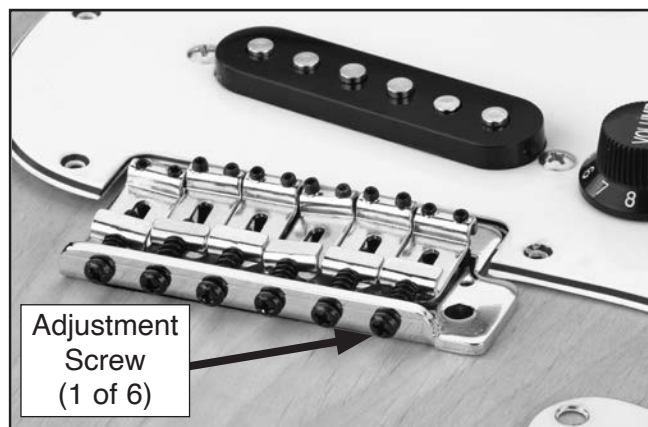

Figure 31. Example of saddle adjustment screw.
2. Now pluck string while holding it fretted at twelfth fret. If this note is sharper than note played in **Step 1**, move saddle away from neck by turning saddle adjustment screw (see **Figure 31**) clockwise. If this note is flat in comparison, move saddle toward neck.